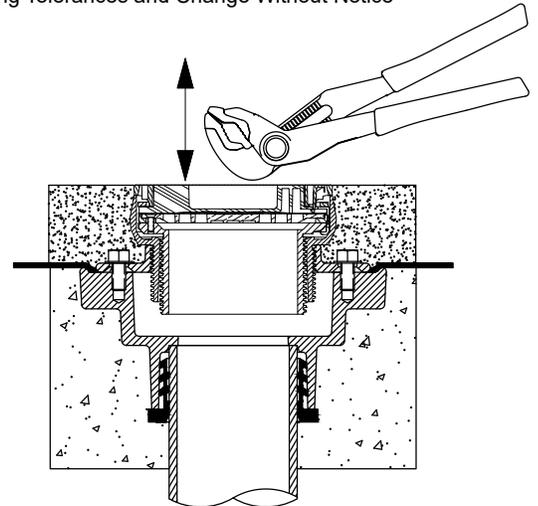

Fig. 7
- Hit the top of the rough-in cover with a pair of adjustable pliers to loosen bond with the concrete. Continue hitting the rough-in cover until a visible crack forms around the entire circumference of the rough-in cover. Rough-in cover should appear loose (separates up from concrete). See Fig. 7